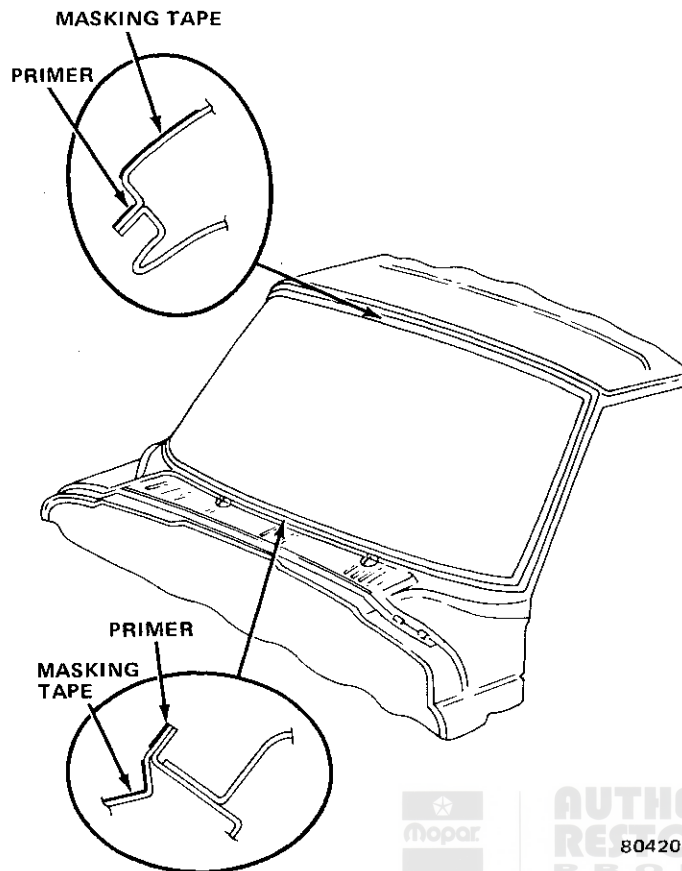

Fig. 3N-6 Installing Body Opening Masking Tape and Primer
(13) Remove masking tape from windshield glass.
(14) With two men working on the outside of vehicle, work windshield into upper glass cavity and into each side.
(15) Position a wooden wand (fig. 3N-1) under the bottom of the glass and lift windshield up and into lower glass cavity.
(16) Check for equal side clearances.
(17) Wipe soap and water solution from windshield glass and rubber weatherstrip.
(18) Apply smooth, continuous bead of urethane adhesive material around entire outside edge of windshield glass and rubber weatherstrip. Bead should be 1/8-inch in diameter.